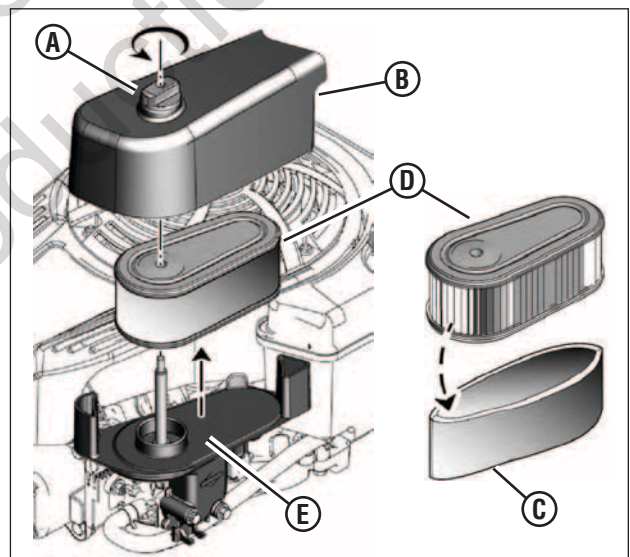

Figure 14: Air filter and pre-cleaner
1. Remove the fastener (A, Figure 14) and the air filter cover (B).
2. Remove the pre-cleaner (C) and the filter (D).
6. Install the filter and pre-cleaner into the base (E). Make sure filter fits securely in the base.